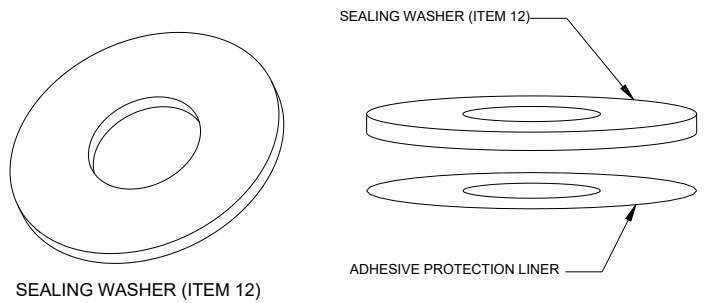

FIGURE F.4
- 1.6** Remove the adhesive protection liner from each sealing washer (item 12) and place a washer over each threaded rod hole with the adhesive side against the bottom panel. (Refer to Figure F.4)